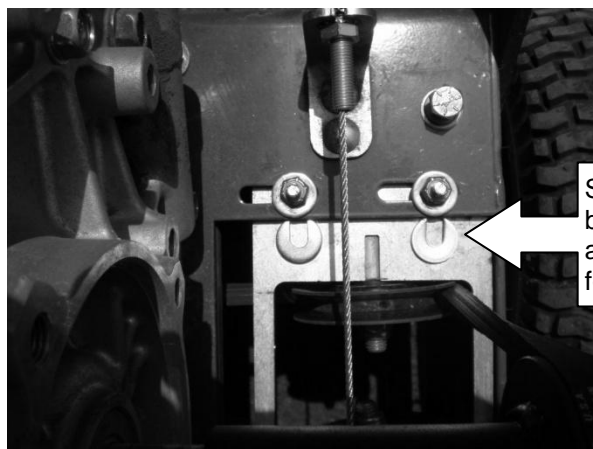

Figure 12.
3. Slide idler bracket away from engine to increase tension. If movement cannot be obtained insert four c-washers in between the idler bracket and the frame, see figure 12.